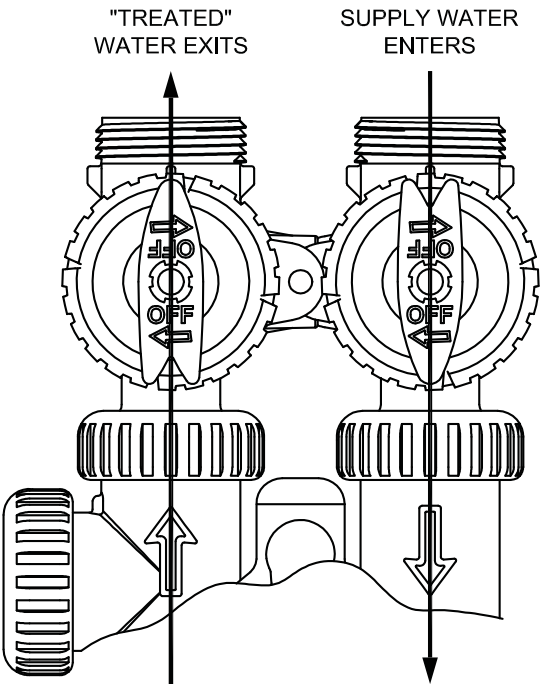

Figure 2
**2. Bypass Position:** The inlet and outlet handles point to the center of the bypass, the control valve is isolated from the water pressure contained in the plumbing system. Untreated water is supplied to the plumbing system. (See Figure 2)